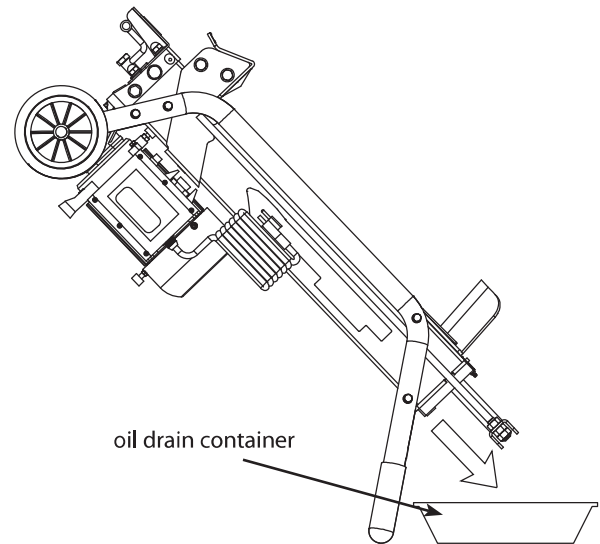

Figure 9
3. Turn the log splitter on the support leg side over using a one gallon or larger capacity container to drain the hydraulic oil. **(SEE FIGURE 9)**